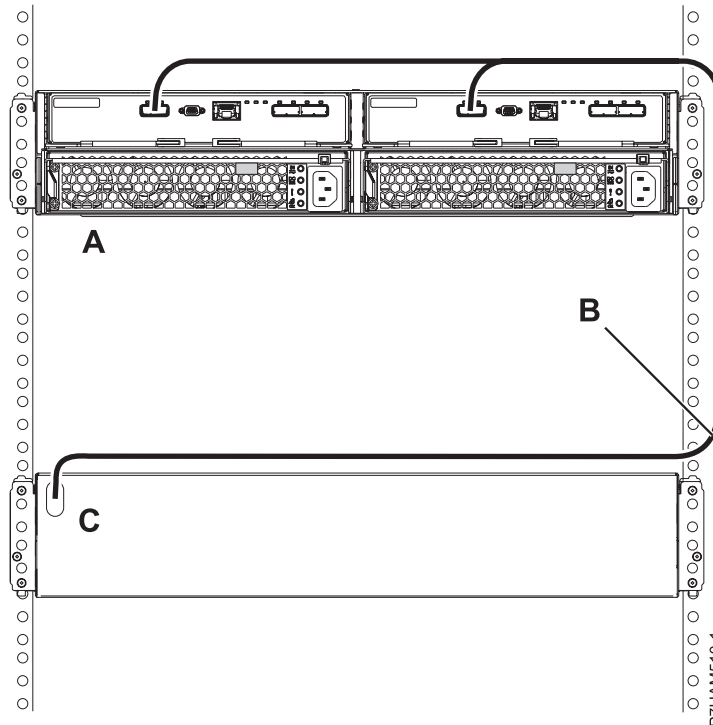

Figure 34. Mode 1 connection of one 58/87 disk drive enclosure by using a YI cable to a system with support for a single SAS drawer
8. Perform the mode 1 connection of one 58/87 disk drive enclosure (A) by using a YI cable (B) to a system with support for a single SAS drawer (C) as shown in Figure 34.
- The system with support for a single SAS drawer (C) has access to all 24 drive bays.